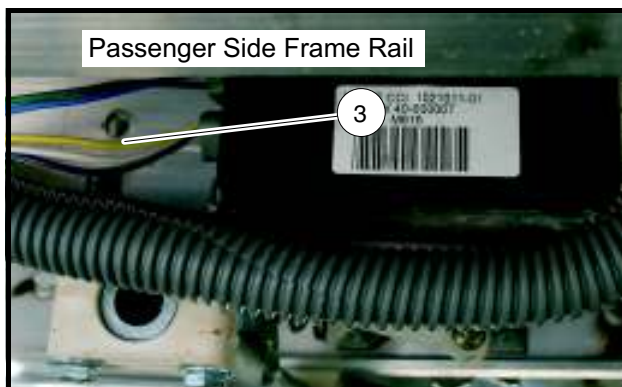

Figure 11-13 Test MCOR: Yellow Wire (+)
6. With multimeter set to 20 volts DC, place the black (–) probe on battery no. 8 negative post and the red (+) probe (with insulation-piercing probe) on the yellow wire (3) at a point close to three-pin connector at the MCOR (**Figure 11-13**). The reading should be approximately 0.32 volts with the pedal up. Slowly press the accelerator pedal and note the readings on the multimeter. As the pedal is pressed, the reading should increase until it reaches 4.65 volts when the pedal is fully pressed.